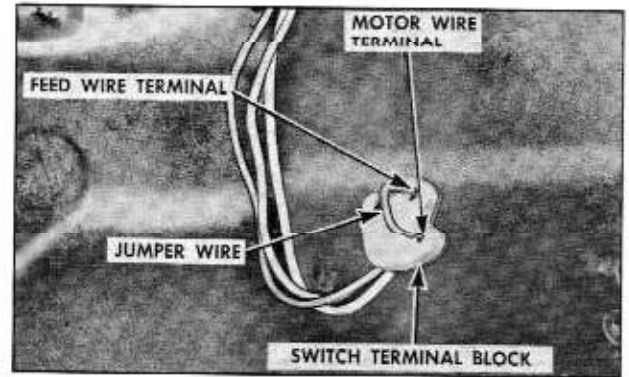

Fig. 17-167 Checking Window Control Switch
- Insert one end of a No. 12 gauge jumper wire to the switch feed terminal and the other end to one of the motor lead terminals in the switch block. Repeat this check on the remaining motor lead terminal. (Fig. 17-167)
- Insert one end of a No. 12 gauge jumper wire to the switch feed terminal and the other end to one of the motor lead terminals in the switch block. (Fig. 17-167)